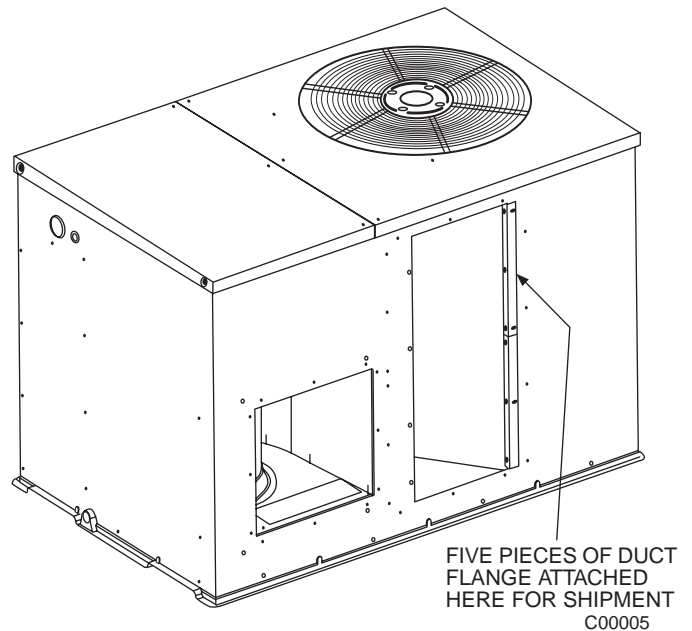

Fig. 5—Shipping Location of Duct Flanges (Size 060 Only)
1. Five pieces of flange are shipped on the return-air opening of the unit. Remove the flanges from the shipping position (See Fig. 5). Screws are field-supplied.